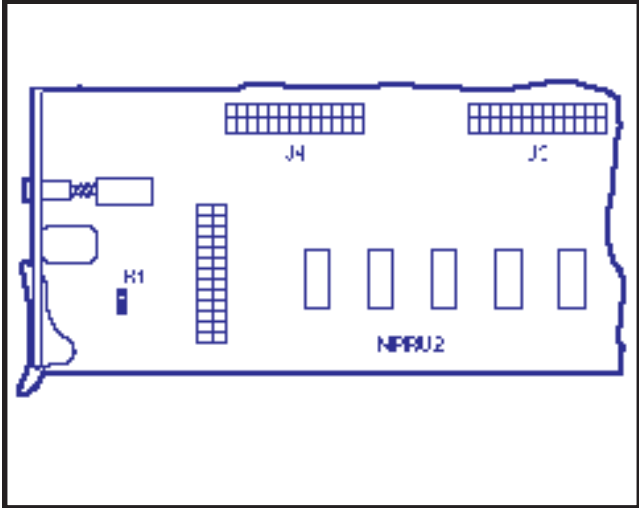

FIGURE 4-15—NPRU STRAPPING
**3.31** The NPRU has one strap that requires verification before installation (Figure 4-15). If Automatic Wake-up is required, verify that the DROM is installed in the IC15 socket. Install the NPRU in the P00 slot. (An NPRU must be installed in the P00 card slot.) If a second NPRU PCB is used, install it in the P01 slot in the PERCEPTIONe expansion cabinet. In PERCEPTIONex, both NPRUs are installed in the basic cabinet. Verify that TB1 is strapped as follows: